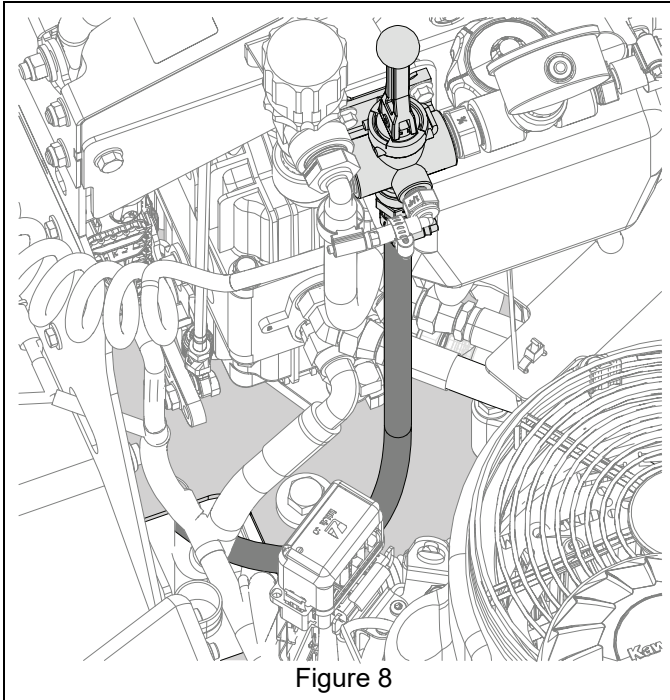

Figure 8
10. Route hose from bottom of control lever down through right side frame opening in front of PTO gearbox. See Figure 8.